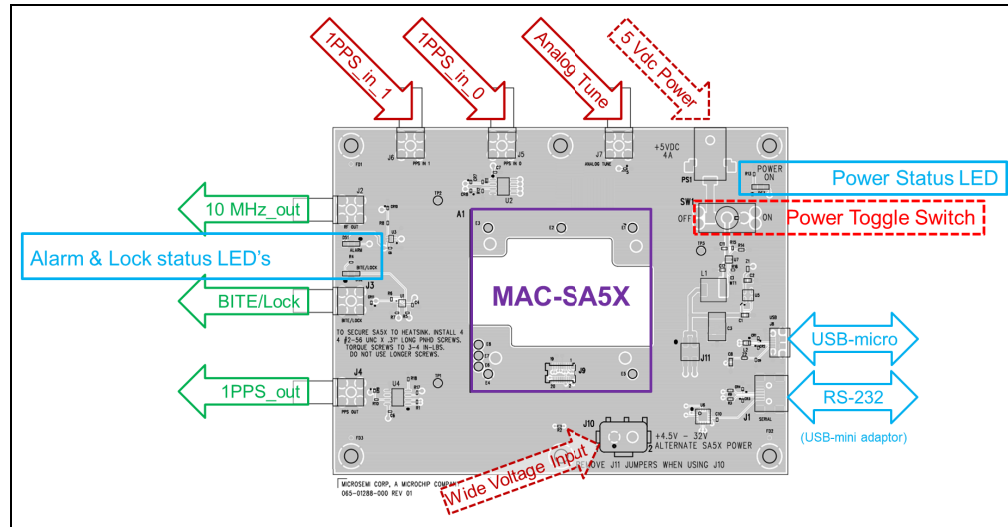

FIGURE D-2: PCBA/Baseplate Physical Connections.
The PCBA/Baseplate consists of a 3.9" x 5.1" aluminum heat sink/baseplate attached to a PCBA with six mounting screws. All connections are on the PCBA. The physical connections of the PCBA/Baseplate are highlighted in Figure D-2.
The Evaluation board has two USB connections for communicating between a PC and a MAC-SA5X (blue arrows in Figure D-2). The “RS-232” connection accepts a USB-mini(M) connector that then passes to a serial converter on the Evaluation board and applies the appropriate levels on pins 7,8 of the MAC. A USB 2.0-to-USB-mini cable is provided in the kit.